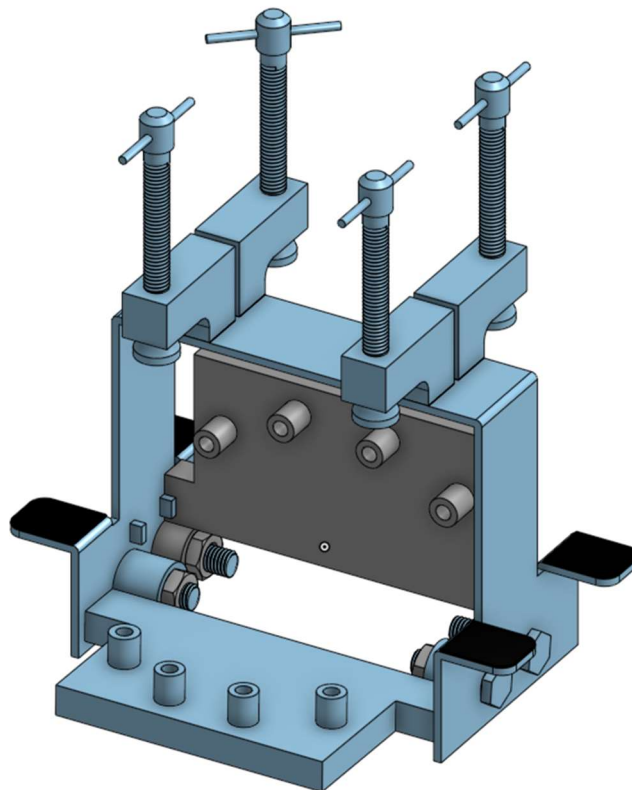

Figure 10 Assembly of final prototype (prototype 3)
- 6) Use the adhesive to attach the pieces of foam to the top surface of the paddle of the steel body. As shown on Figure 10.